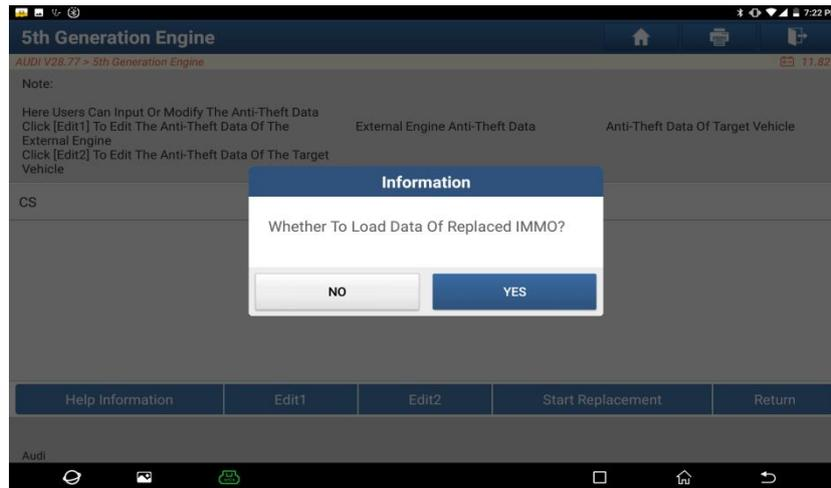

Figure 10
3.2.1.9 Click [Edit 1], as shown in Figure 10. If you already have the Anti-Theft data of this